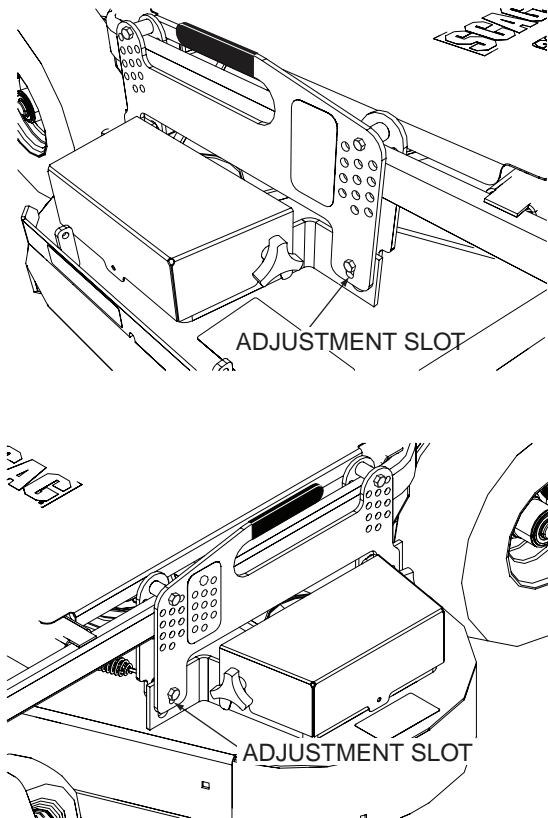

Figure 6-2. Cutter Deck Adjustment Slots
1. On the front of the cutter deck locate the cutter deck adjustment slots. See Figure 6-2.